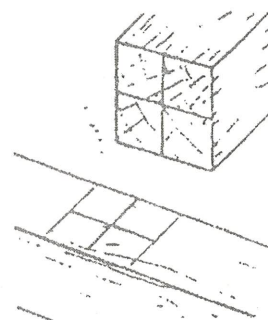

Fig 26
2. Mark the center of slots using a cross pattern (Fig.26). Be sure the marks on both boards match. (Hint: Snap a chalk line on one set of marks, press the other board on top of it to get an impression, then remark with pencil) Then set the biscuit depth.